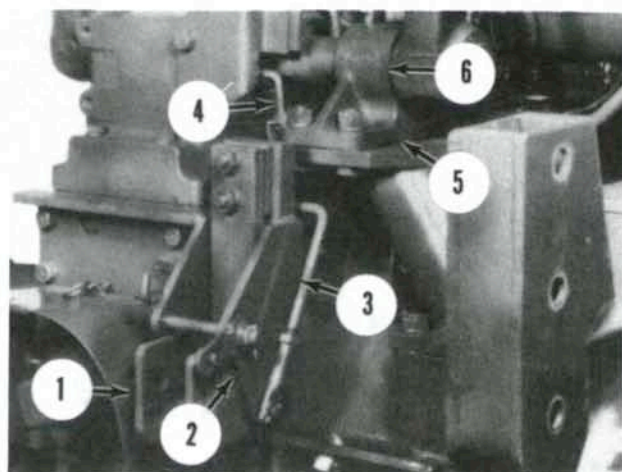

Fig. 272—View of rear of lift housing on 1710 Offset model equipped with draft control.
To reinstall, reverse the removal procedure. On 1710 Offset models, be sure to install original shims (5—Fig. 272) between rockshaft support (6) and support bracket. Be sure that rockshaft rotates freely after support mounting bolts are